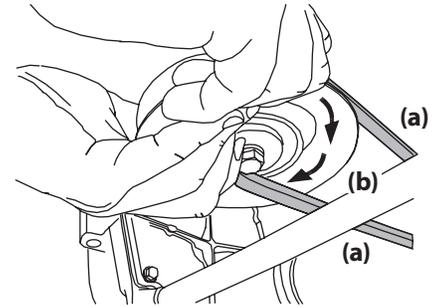

Figure 4-12
- While still holding the PTO belt (a) downward, continue turning the PTO pulley (b) until the PTO belt (a) is rolled off the PTO pulley (b). Refer to Figure 4-12.
11. Pull the right side of the PTO belt rearward and place the narrow V-side of the PTO belt into the PTO pulley. See Figure 4-12.
12. While holding the PTO belt and PTO pulley together, rotate the PTO pulley to the left (See Figure 4-12). Continue holding and rotating the PTO pulley and PTO belt until the PTO belt is fully rolled into the PTO pulley.